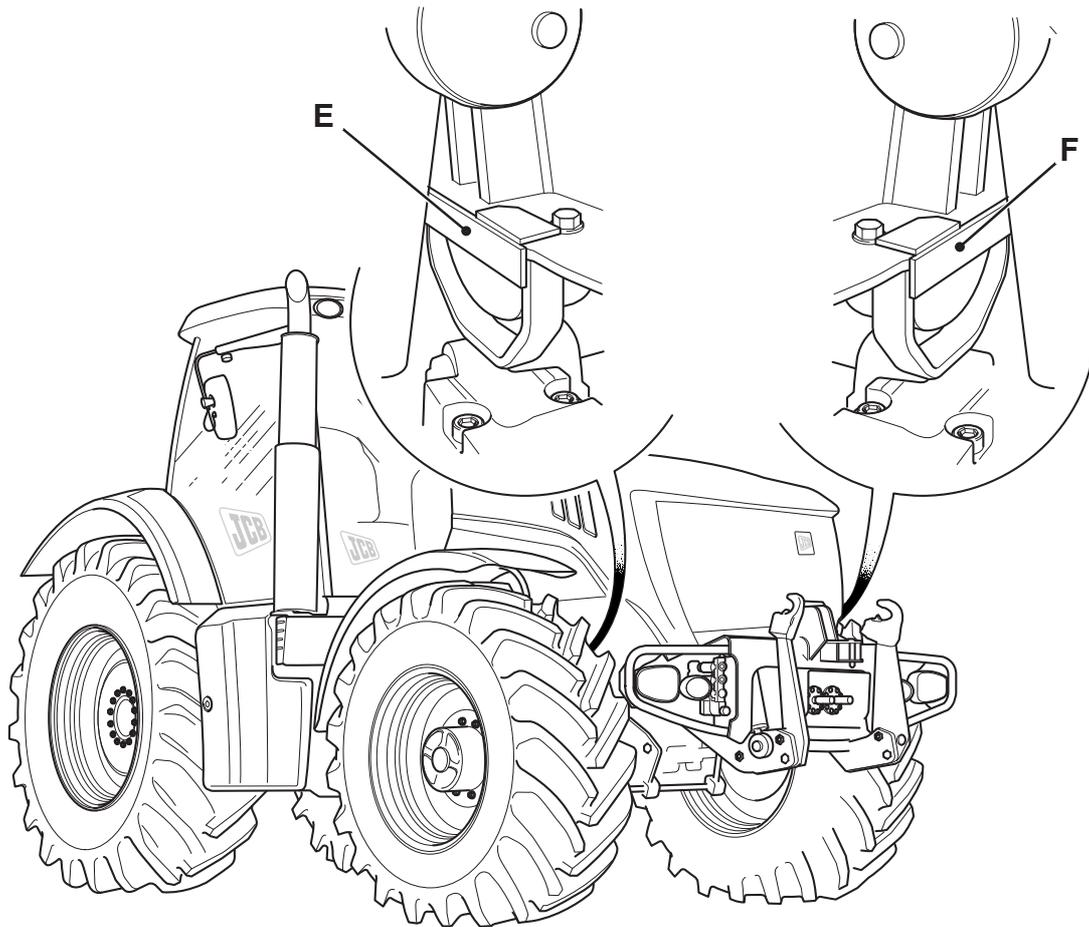

Fig 12.
- 15 Place the special calibration tools **E** and **F** between the front axle and the chassis as shown. → Fig 12. (□ S-12) These tools will need to be made